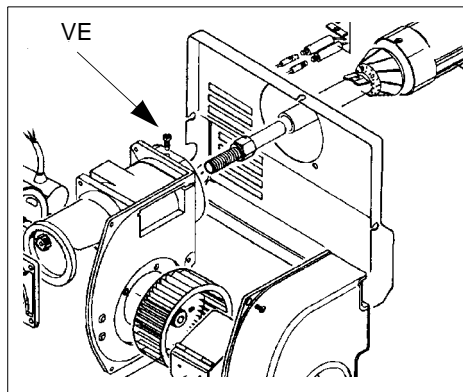
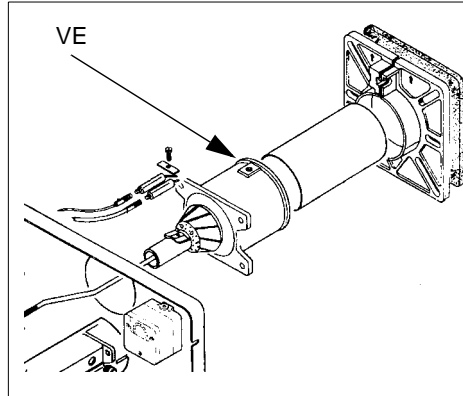
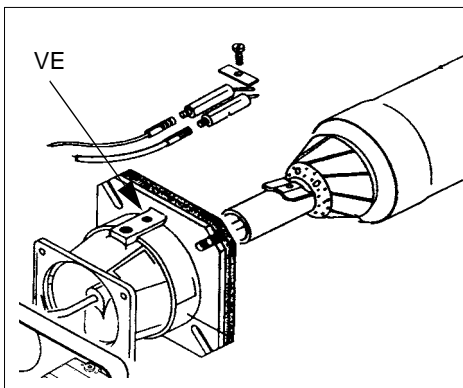

Fig. 31a
Fig. 31b
Fig. 31c
- Remove, check and clean the combustion head (see Fig. 31a, Fig. 31b, Fig. 31c);
**Type S3 (Fig. 31a) and S5 (Fig. 31b)**
**Type S10 - S18 (Fig. 31c)**